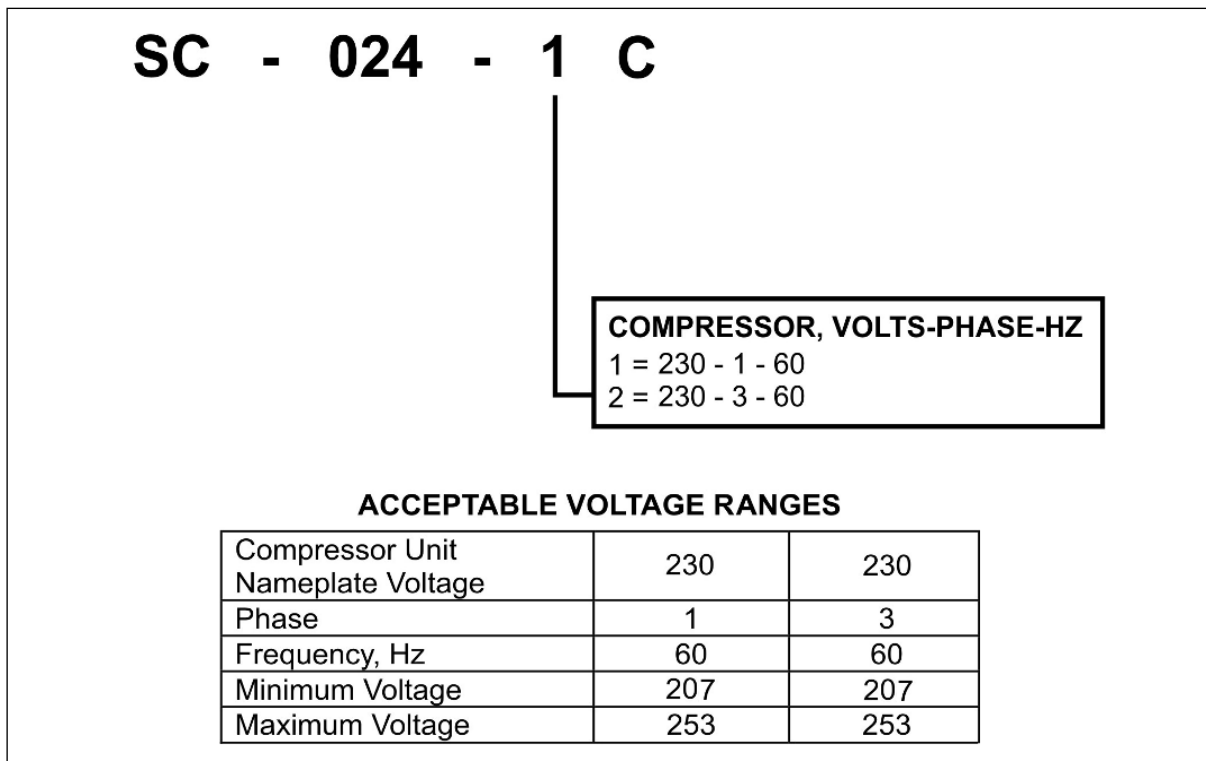

Figure 39. Compressor Unit Voltage Information
After setting the remote (wall) thermostat system switch to the “OFF” position and the thermostat fan switch to the “AUTO” position, proceed to check the supply voltage at (1) the line terminals to the breaker/disconnect; 2) the system side of the breaker/disconnect, and 3) the line-side of the transformer. Verify the proper voltage rating for the system. Reference Figure 39.
4. **Check incoming power supply voltage** to determine whether it is within acceptable voltage range.* (See Figure 39)
5. **Check voltage at compressor unit terminals** to determine whether it is within acceptable voltage range.* (See Figure 39)